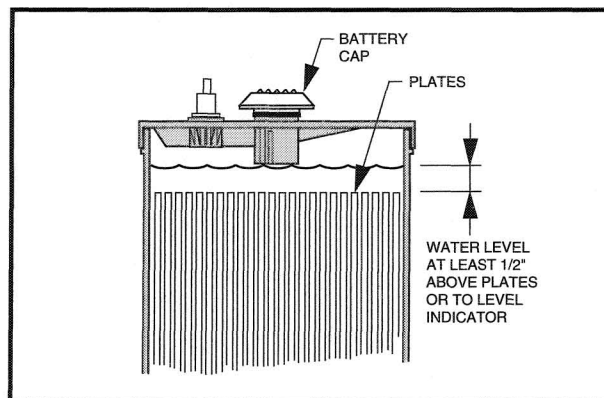

Figure 27
2. The water level in the batteries should be checked weekly. (See Figure 27 for proper level.) Add water only after charging unless the water level is below the top of the plates. In this case, add just enough water to cover the plates, charge and then check the level again. For maximum battery life, add only distilled water to the batteries.